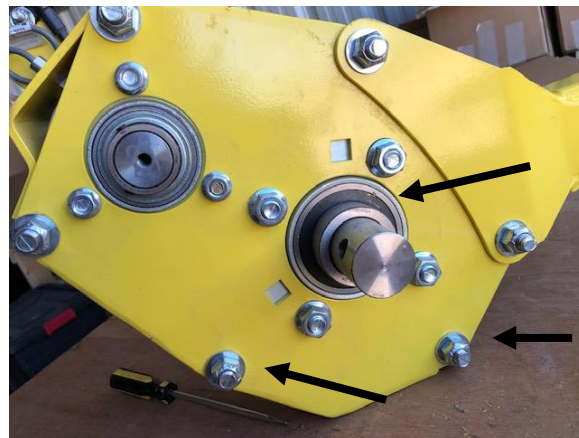

Figure 179
4. To disassemble the gearbox remove all the bolts that hold the covers to the gearbox. Figure 179